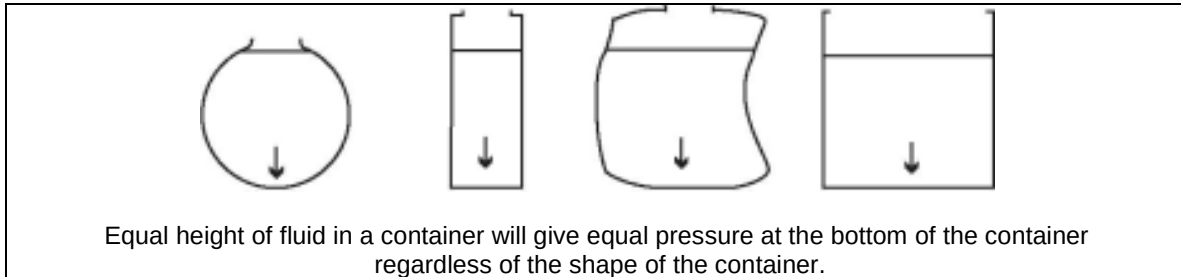

Figure 1-2 Static Pressure
1. Static pressure exerted by a column of fluid is proportional to the height of the top of the FLUID and is not affected by its volume, as illustrated in Figure 1-2. If we have different shaped containers, as shown, the pressure at the bottom of the containers will be the same, as long as the height of the fluid in the containers is the same. This is true regardless of the shape or volume of the container.